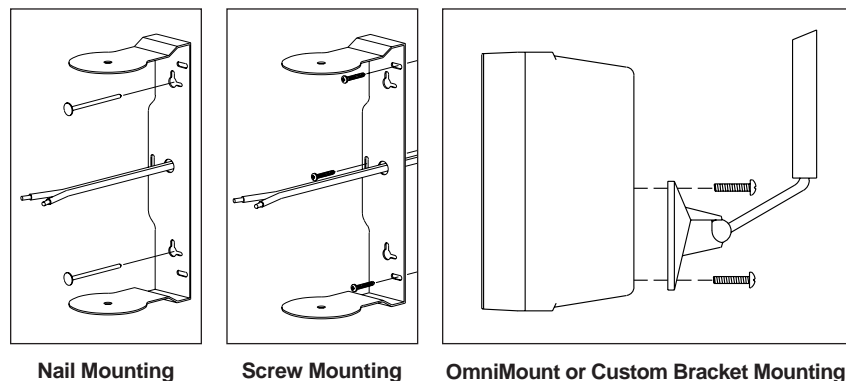

Figure 7 The OS-20 can be mounted three ways.
1. If the speaker is never going to be exposed to sudden accidental impacts, wind, waves or earthquakes you can simply hang it on a nail using the nail hole(s) of the bracket (See Figure 7).
2. The safest and most secure way to mount the speaker is by screwing it to the mounting surface using your own hardware (suitable for the surface you are mounting to) and the bracket supplied with the speaker (See Figure 7).
3. There are threaded brass inserts on the back of the OS-20 for attaching an OmniMount or a custom bracket (See Figure 7). This allows you to position the speaker at unusual angles or distances from the mounting surface.